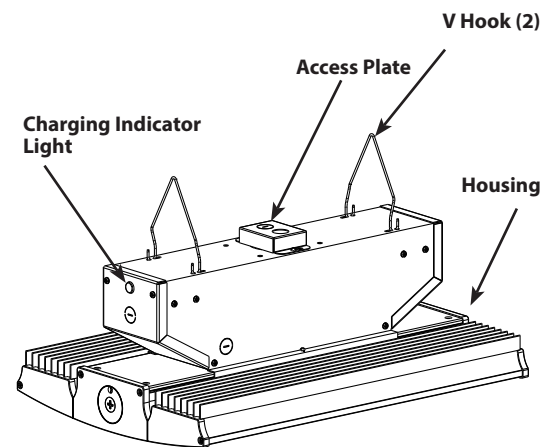

Fig. 1
1. **V Hooks (2)** are provided for chain mounting. Secure **V Hooks** through mounting hole at back of **Housing** as in **Fig. 1**.
2. Connect to two (2) equal lengths of chain (by others) and/or appropriate hardware (by others) suitable for mounting surface, to suspend **Housing** from **V Hooks**.
3. Fixture mounting height and spacing should be determined by application requirements. Use chain suitable to support four (4) times the weight of the fixture.
5. Tighten screws (2) and secure **Access Plate**.
9. At this point, power should be connected to both the AC ballast and the emergency ballast, and the **Charging Indicator Light** as shown in **Fig 1** should illuminate indicating the battery is charging.
1. When AC power is applied, the **Charging Indicator Light** as shown in **Fig. 1** is illuminated, indicating that the battery is being charged.